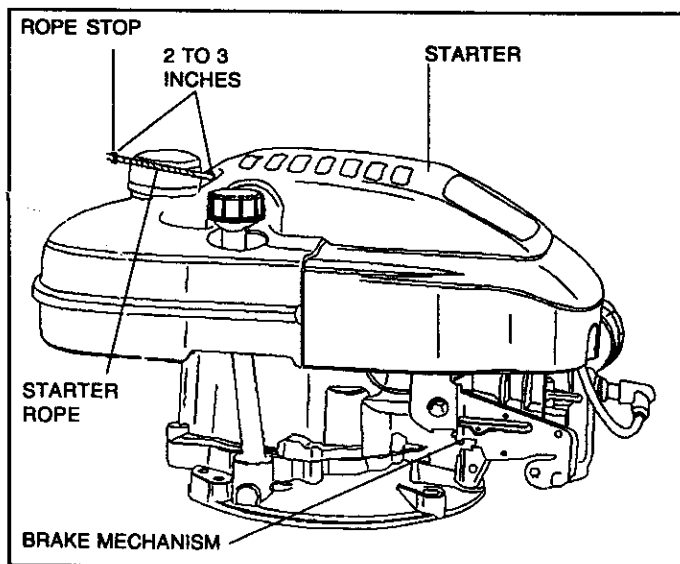
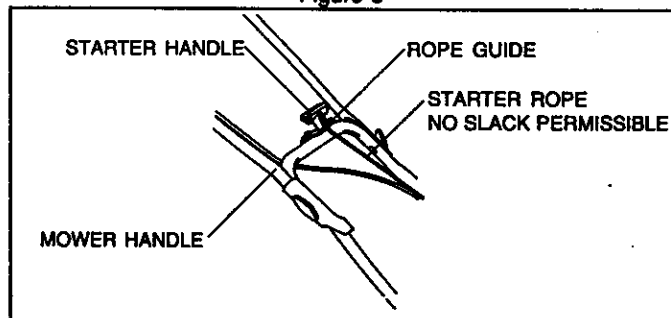

Figure 2
Figure 4
② INSTALL ENGINE BRAKE CABLE AND STARTER ROPE: BRAKE CABLE (see Figure 2):
- Slide rope stop (see Figure 2) onto starter rope and feed starter rope through rope guide on mower handle (see Figure 4).
- With starter handle resting on rope guide (see Figure 4), check starter rope for slack. If there is any slack, pull more starter rope through starter handle and relocate left hand knot to eliminate slack.
- Position rope stop 2 to 3 inches from starter (see Figure 2) and fasten it to starter rope by gripping it with pliers and forcing staple through starter rope until staple is even with out side of rope stop.
③ CHECK OIL LEVEL:
C. Grasp starter handle (see Figure 4) and pull rope out, slowly, until it pulls slightly harder. Let rope rewind slowly. Then pull rope with a rapid full arm stroke. Let rope rewind SLOWLY. Do not let starter handle snap back against rope guide (see Figure 4).